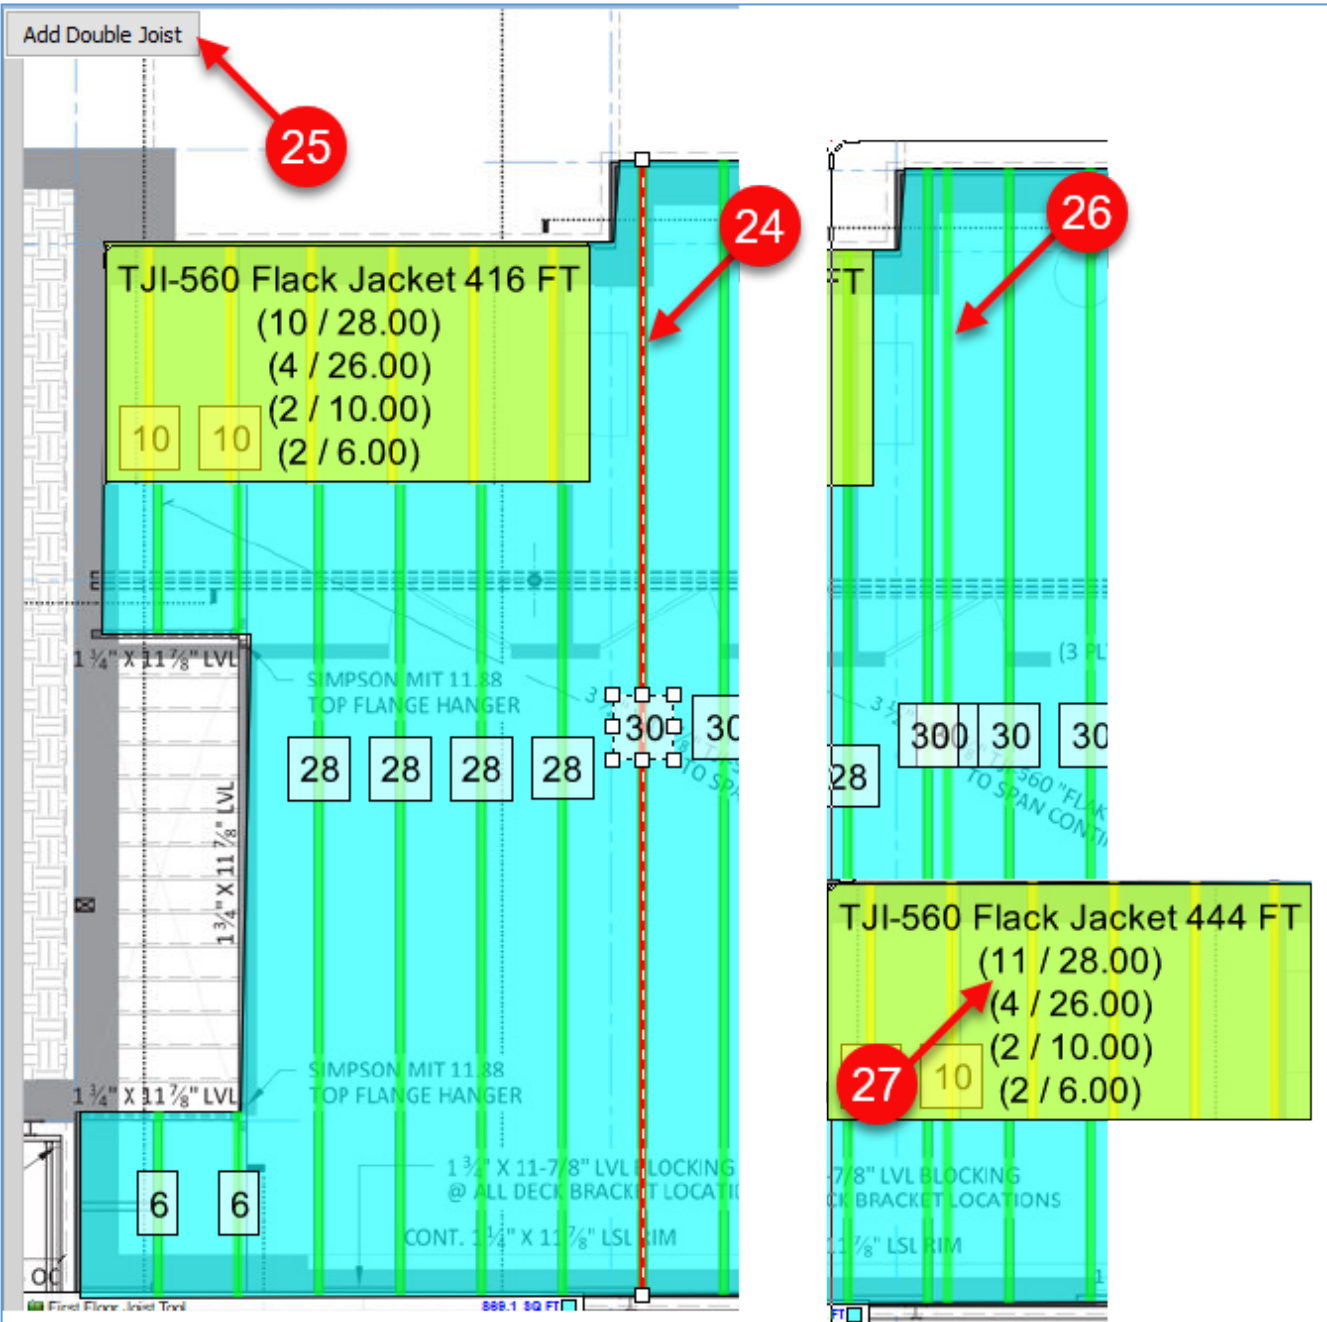

Figure 36-E
28. If you want to split the joists and rafters, click on the "First Floor Joist Takeoff" area (Fig. 36-F).